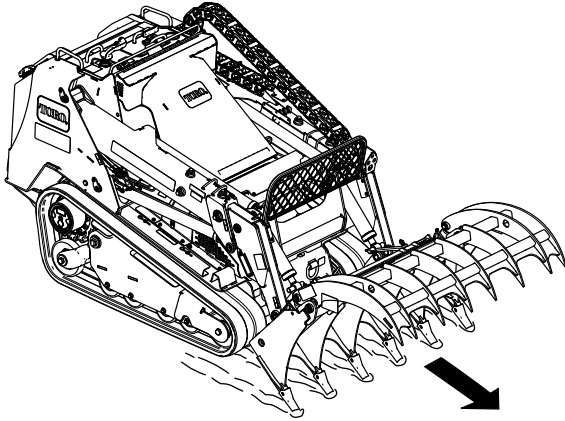

Figure 6
1. To dig or rake using the lower jaw, open the jaws and lower the lower jaw teeth into the ground (Figure 6).